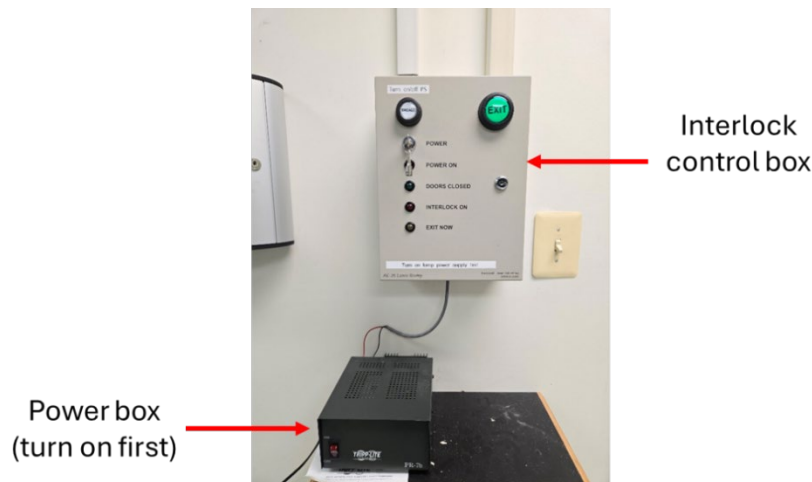
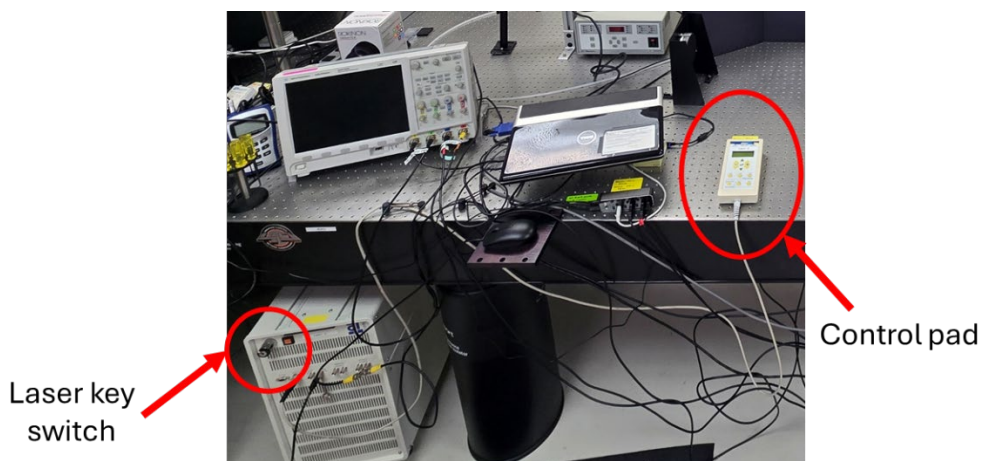

Figure 7. Interlock box and power supply.
Figure 9. Laser power supply and control pad.
- Measure time-resolved visible and infrared (IR) emission (primarily on the millisecond timescale)
- Interlock (Figure 7)
- Turn key switch (key is located in lock box next to the interlock box in Figure 7), let warm up approximately 5 min (Figure 9)